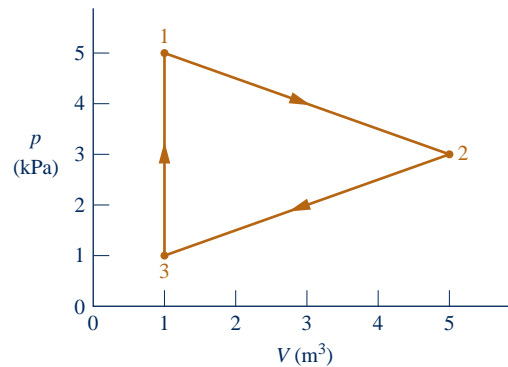

Fig. P2.73
2.73 Figure P2.73 shows a power cycle executed by a gas in a piston–cylinder assembly. For process 1–2, $U_2 - U_1 = 15 \text{ kJ}$. For process 3–1, $Q_{31} = 10 \text{ kJ}$. There are no changes in kinetic or potential energy. Determine (a) the work for each process, in kJ, (b) the heat transfer for processes 1–2 and 2–3, each in kJ, and (c) the thermal efficiency.